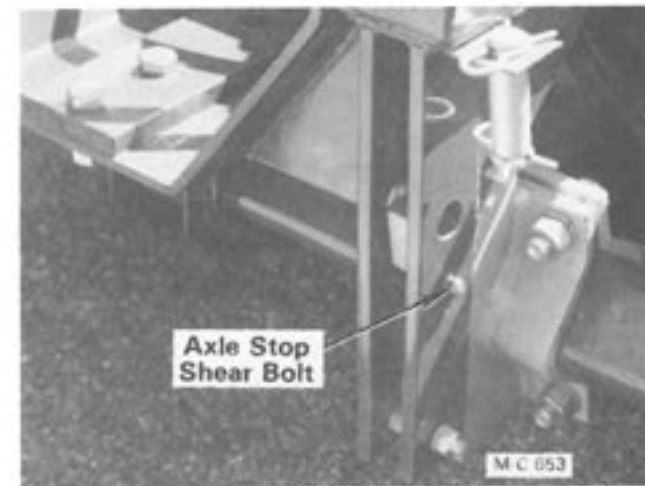

Figure 15E
- Remove the Shredder pole jack and store it on the jack mount on the right side of the Shredder. Remove the axle stop shear bolt, see Figure 15E. Raise the Shredder with the hydraulic ram or optional mechanical ram.
- Lower the Shredder with the hydraulic or optional mechanical ram just far enough to install the axle stop shear bolt, see Figure 15E. The shear bolt holds the Shredder axle and wheels up during transport.